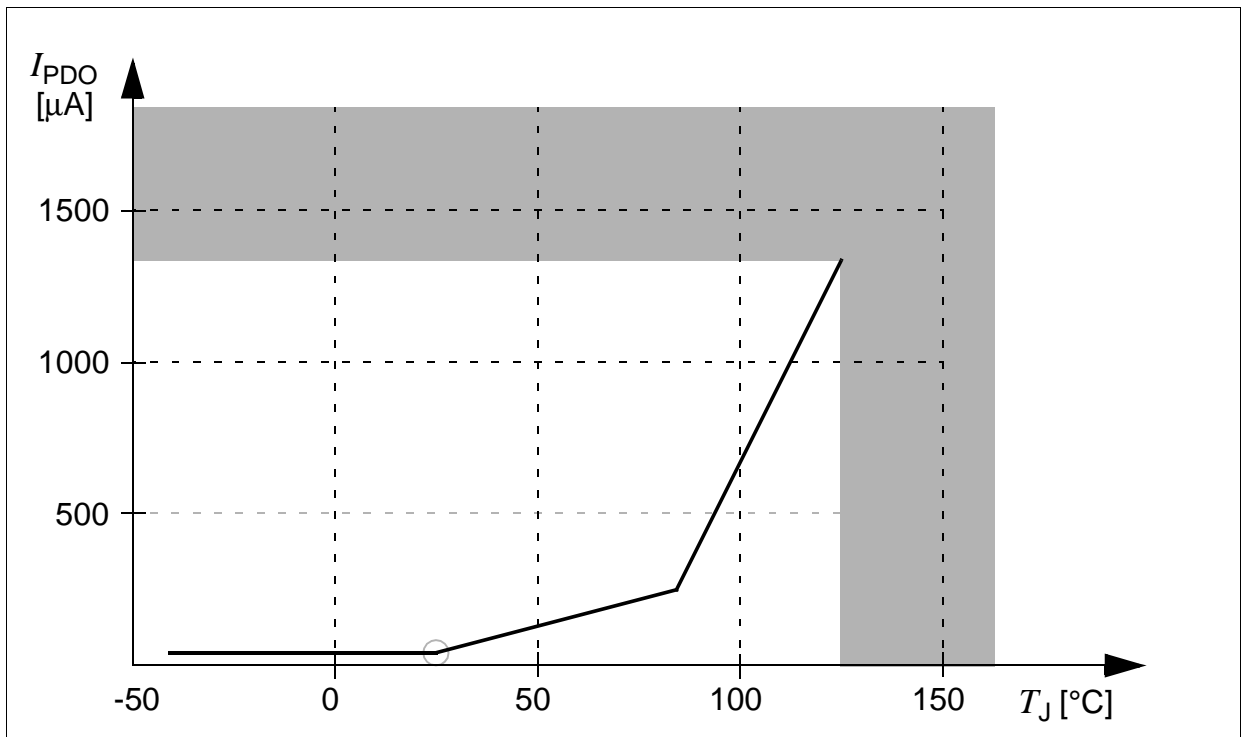

Figure 12 Sleep and Power Down Supply Current as a Function of Temperature
- 5) This parameter is determined mainly by the transistor leakage currents. This current heavily depends on the junction temperature (see Figure 12). The junction temperature T_J is the same as the ambient temperature T_A if no current flows through the port output drivers. Otherwise, the resulting temperature difference must be taken into account.